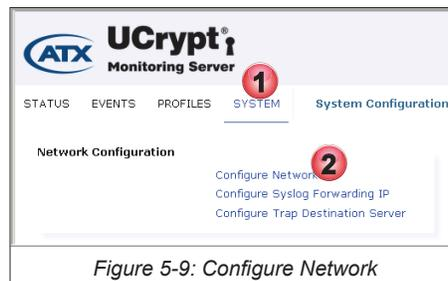

Figure 5-9: Configure Network
1. Click the **System** Tab, Figure 5-9.